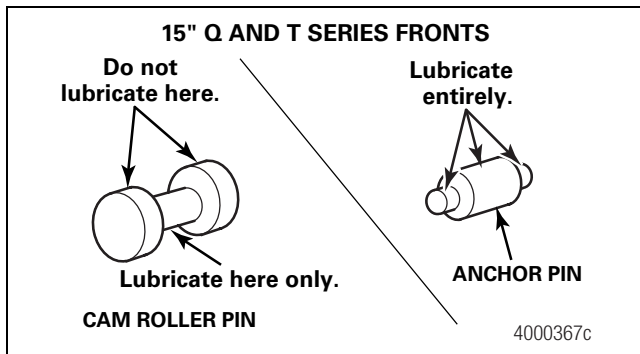

Figure 5.23
1. Use Meritor specification O-617-A or O-617-B grease to lubricate the roller pin and anchor pin. Figure 5.23.
1. Lubricate the roller pin and anchor pin with Meritor specification O-617-A or O-617-B grease. Figure 5.23.